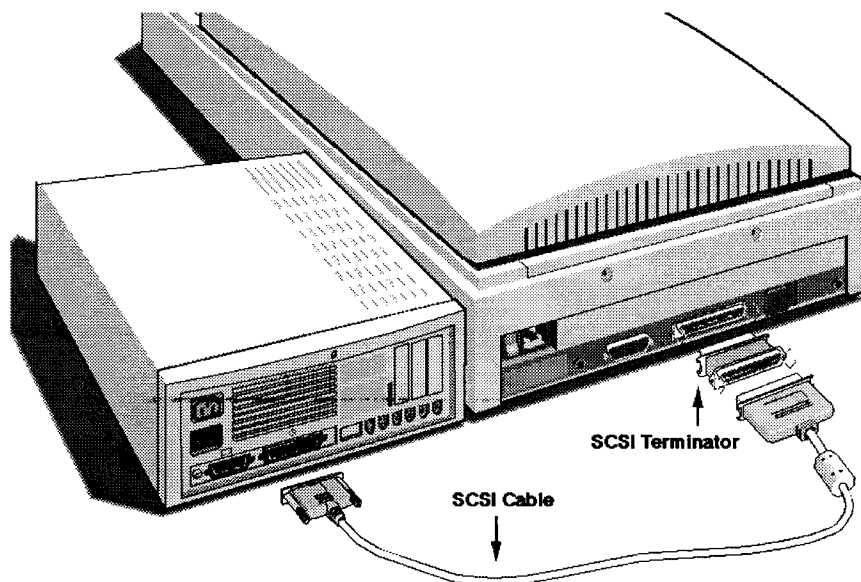

Fig. 3.2 Connecting the Model GS-700 to a Macintosh computer where the densitometer is the only SCSI device.
3. Connect the other side of the SCSI cable to the terminator that is placed on the 50-pin SCSI port of the densitometer (Figure 3.2).